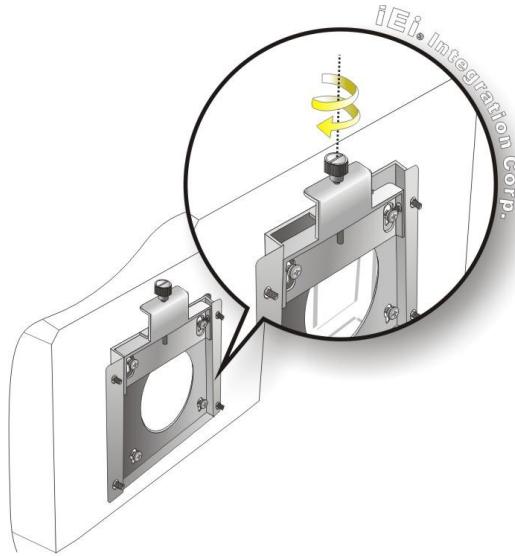

Figure 3-39: Secure the Panel PC
Step 9: Secure the panel PC by fastening the retention screw of the wall-mounting bracket (**Figure 3-39**).